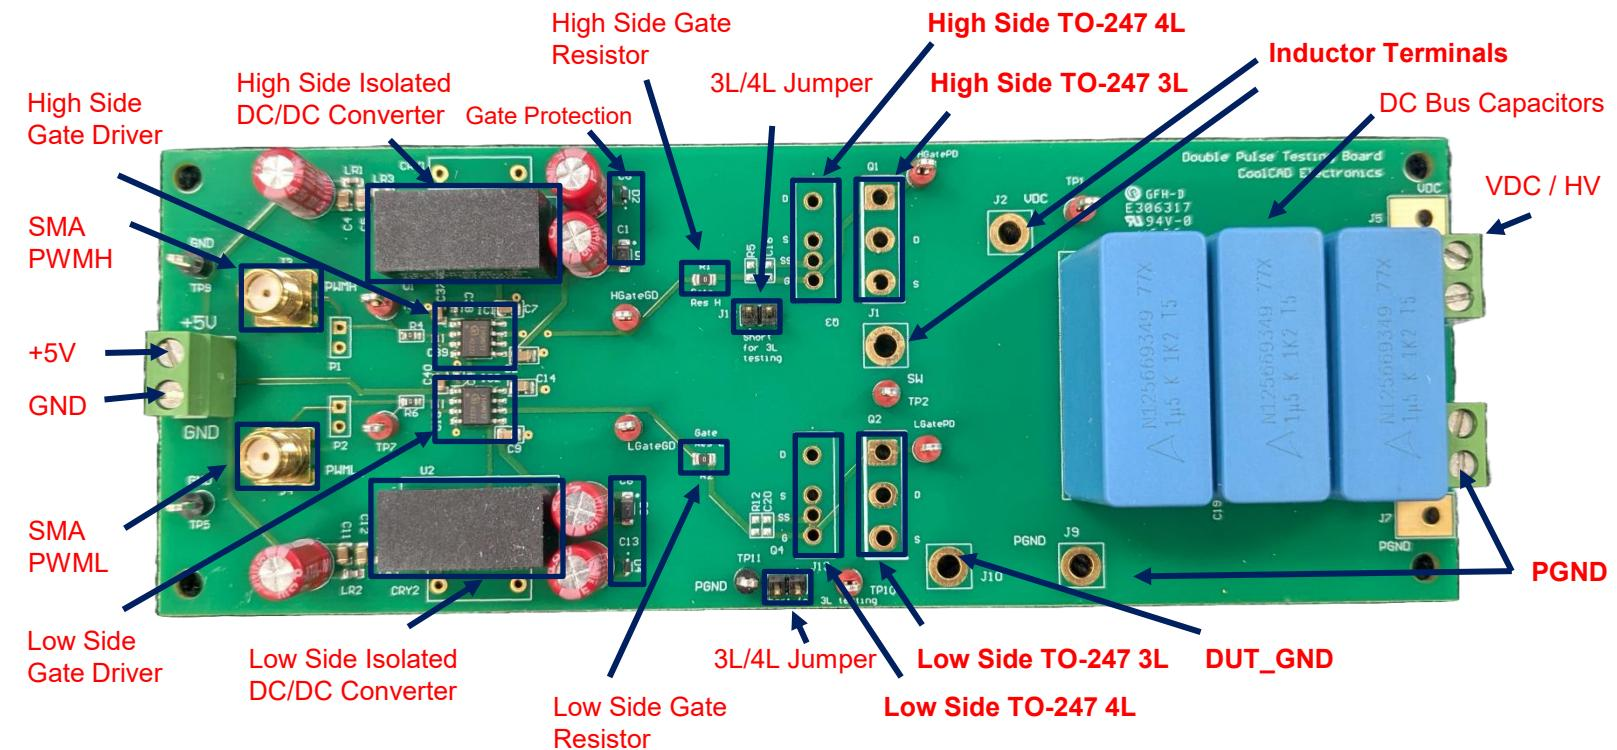

Figure 4: DPT evaluation board: Top side view of components.
**Figure 4** indicates key components and features of the board.